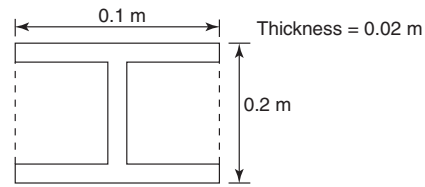

Figure 7.27
**Problem 16.** Determine the second moment of area about a horizontal axis passing through the centroid, for the  $I$  beam shown in Figure 7.27.